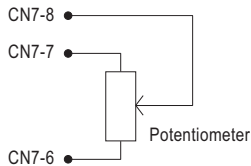

Figure 1
- Applying an additional 100K  $\Omega$  potentiometer across CN7-6 and CN7-7 (referring to Figure 1) will enable the adjustment in between -5% and +5% (EX: -3%, +2.5%, and etc.)